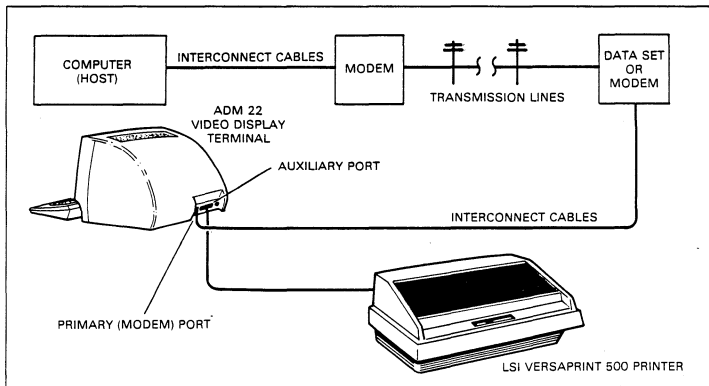
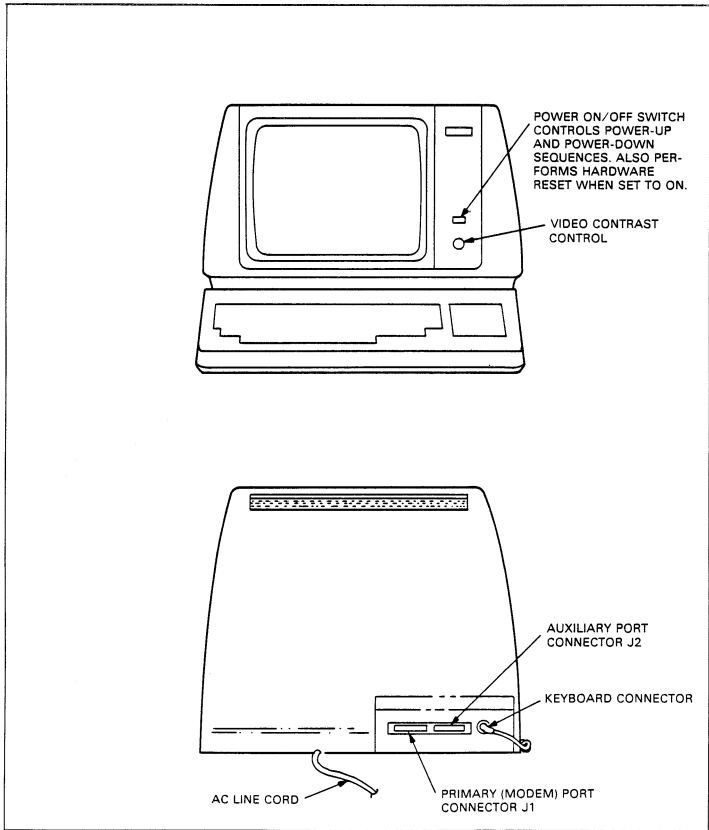
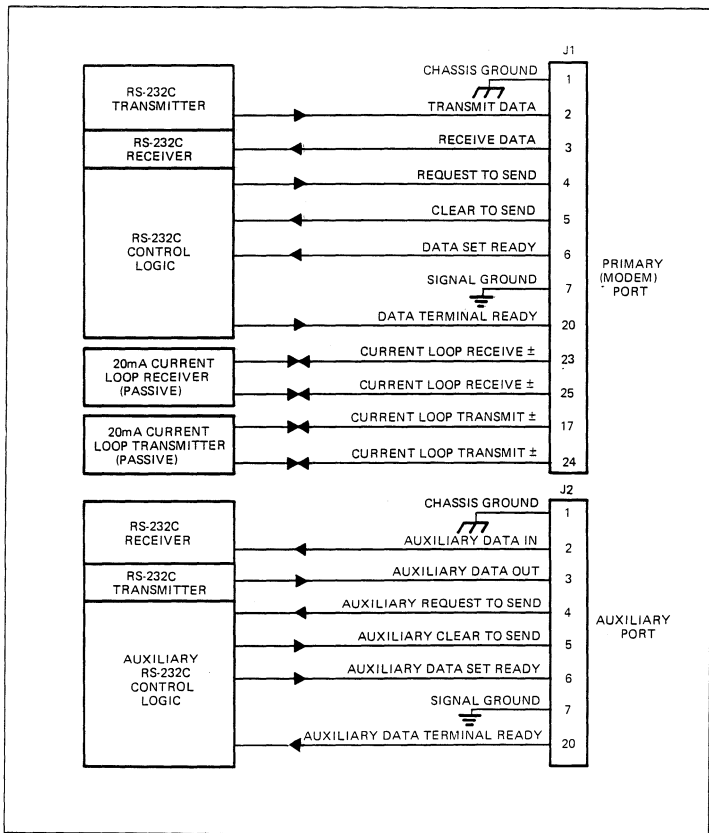

Figure 2-2. Typical ADM 22 Applications
Figure 2-4. ADM 22 Controls and Connectors
Figure 2-5. Primary (Modem) and Auxiliary Port
The ADM 22 may be cabled directly to a local computer; serial printer, or other auxiliary device; or it may be connected via telephone data lines to a remote computer located anywhere in the world. Figure 2-2 shows a typical ADM 22 application. Figure 2-4 shows the rear panel locations of the interface connectors. Figure 2-5 shows the logic associated with these interfaces.
1. Check the ON/OFF switch (refer to figure 2-4) to ensure that it is set to OFF.